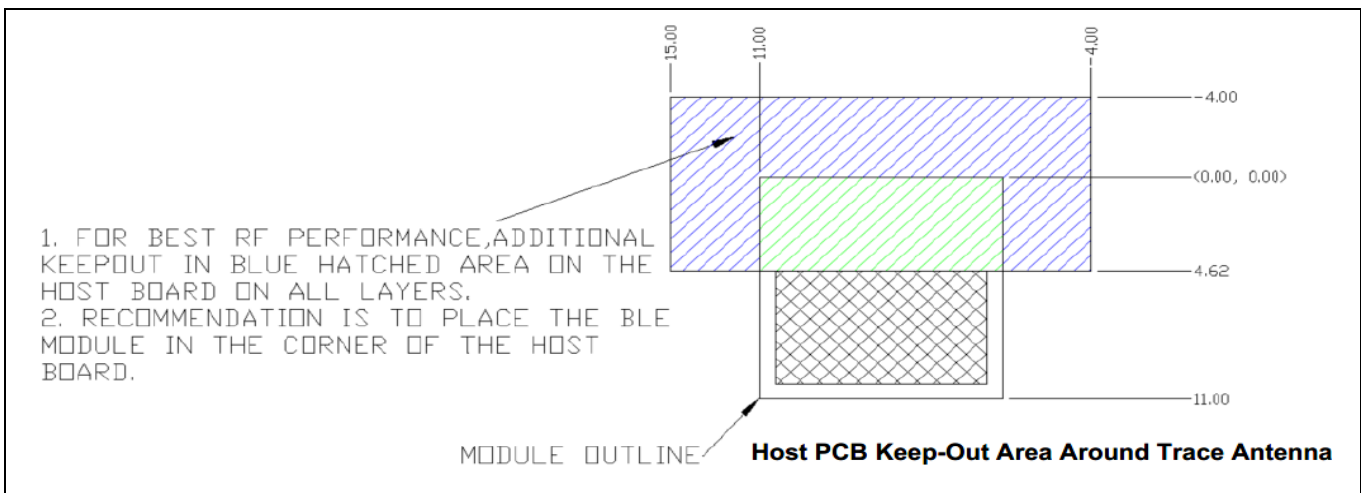
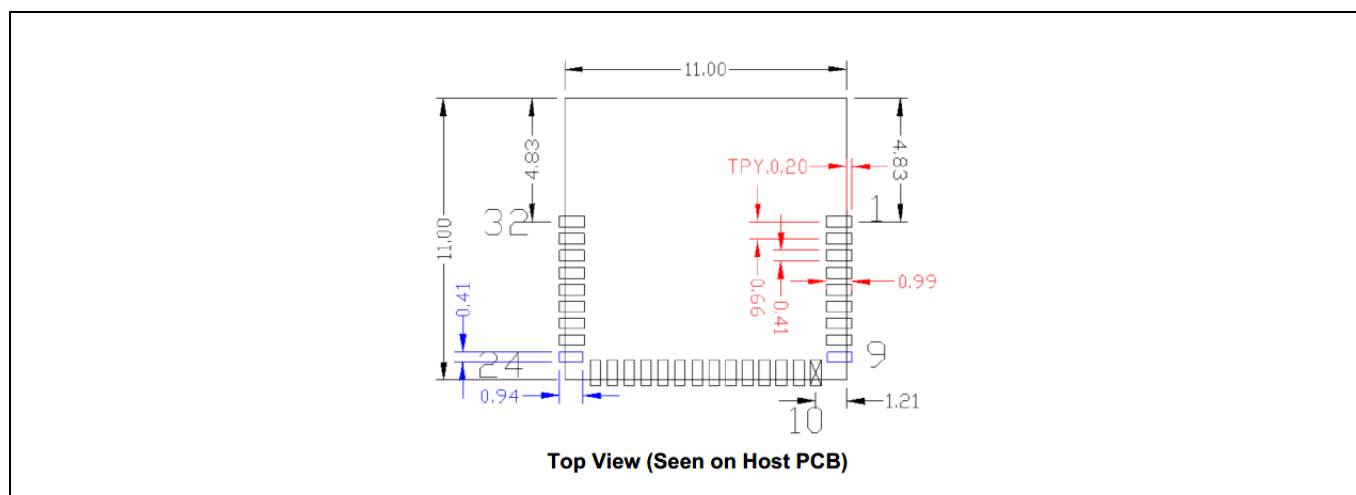
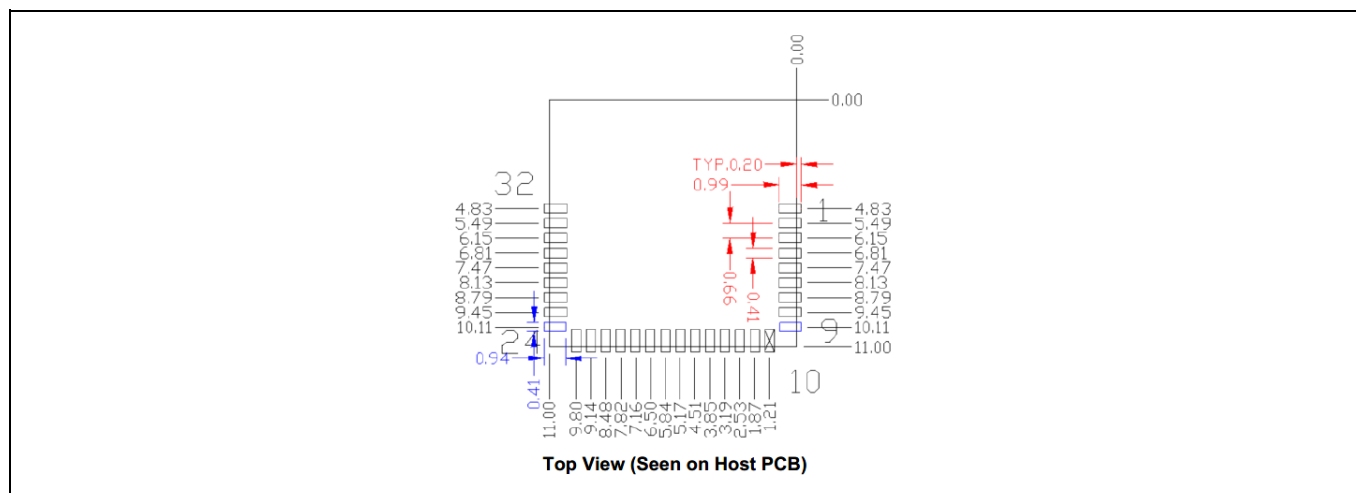
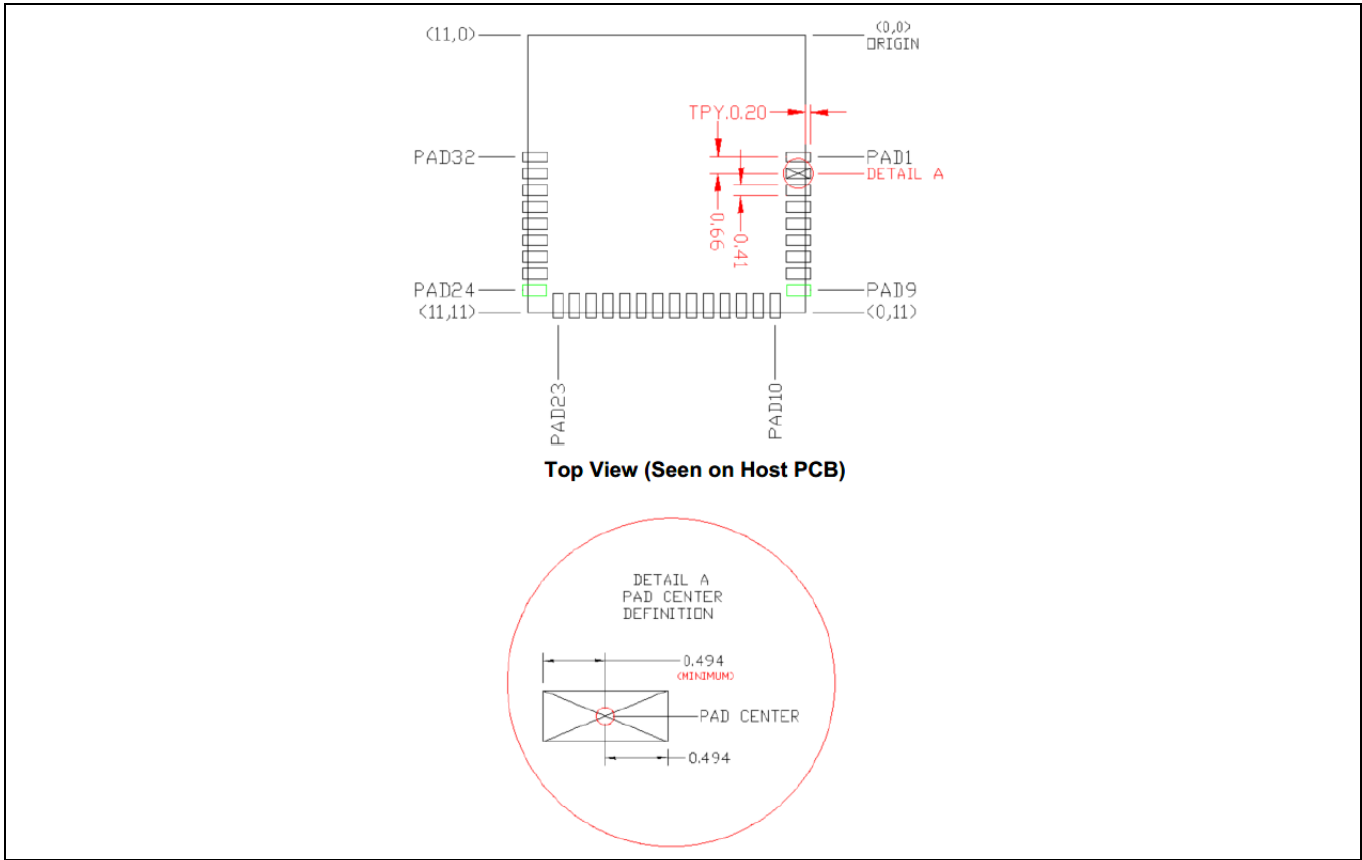

Figure 3 Recommended host PCB keep-out area around the CYBLE-214015-01 trace antenna
Figure 4 **Host layout pattern for CYBLE-214015-01**
Figure 5 **Module pad location from origin**
Figure 6 Solder pad reference location
1. No metal should be located beneath or above the antenna area. Only bare PCB material should be located beneath the antenna area. For more information on recommended host PCB layout, see Figure 3, Figure 4, Figure 5, Figure 6, and Table 3.
1. The ideal placement of the AIROC™ Bluetooth® LE module is in a corner of the host board with the antenna located on the edge of the host board. This placement minimizes the additional recommended keep-out area stated in item 2. Refer to **AN96841** for module placement best practices.
2. To maximize RF performance, the area immediately around the AIROC™ Bluetooth® LE module trace antenna should contain an additional keep-out area, where no grounding or signal traces are contained. The keep-out area applies to all layers of the host board. The recommended dimensions of the host PCB keep-out area are shown in **Figure 3** (dimensions are in mm).
Figure 4 through **Figure 6** and **Table 3** provide details that can be used for the recommended host PCB layout pattern for the CYBLE-214015-01. Dimensions are in millimeters unless otherwise noted. Pad length of 0.99 mm (0.494 mm from center of the pad on either side) shown in **Figure 6** is the minimum recommended host pad length. The host PCB layout pattern can be completed using either **Figure 4**, **Figure 5**, or **Figure 6**. It is not necessary to use all figures to complete the host PCB layout pattern.
Table 3 provides the center location for each solder pad on the CYBLE-214015-01. All dimensions are referenced to the center of the solder pad. Refer to **Figure 6** for the location of each module solder pad.